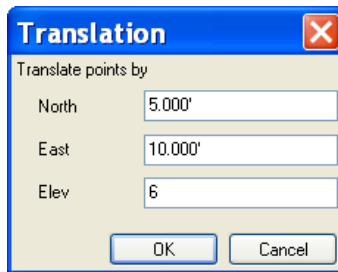

Figure 3-17. Enter XYZ Translation Values
2. On the *Translation* dialog box, enter the desired *North*, *East*, and *Elev* translation values, then click **OK** (Figure 3-17).